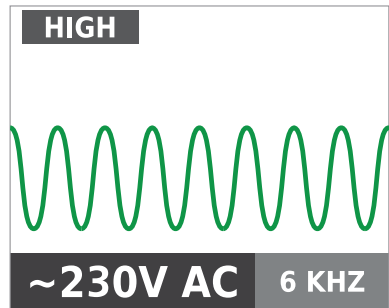

Figure 3.1b
3. Select HIGH signal mode for most applications. Screen will appear as shown in Figure 3.1b.